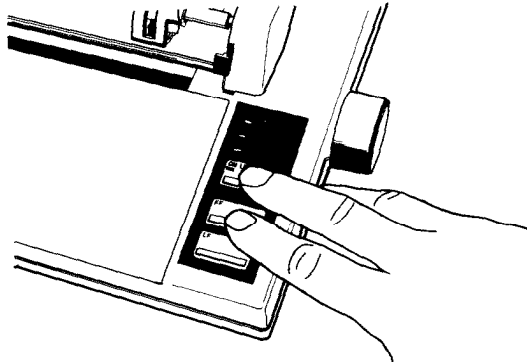

Figure 2-1. Turning SelecType on
2. Press both the **ON LINE** and **FF** buttons at the same time, as illustrated in Figure 2-1.